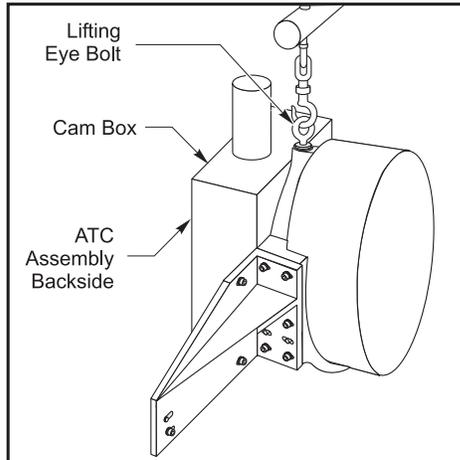
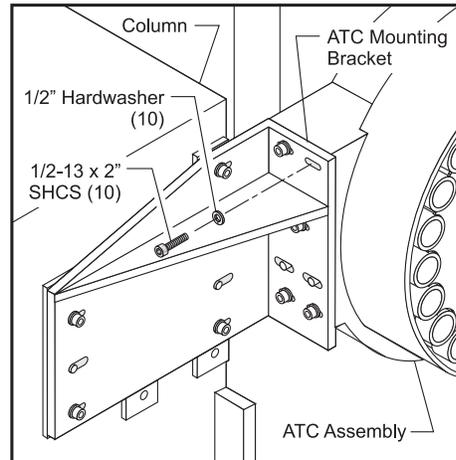

Figure 3.12-5 ATC Assembly Lifting Position
Figure 3.12-6 ATC Mounting Bracket
4. Insert an eye-bolt into the threaded 1/2-13 hole at the top of the carousel housing. Attach the lifting device to the eye-bolt and support the ATC assembly (Refer to Figure 3.12-5). Remove the five carousel mounting SHCS from the ATC mounting bracket and move ATC assembly away from the column (Refer to Figure 3.12-6).
6. Lower the ATC assembly with the back side of the cam box towards the ground. See Figure 3.12-5.